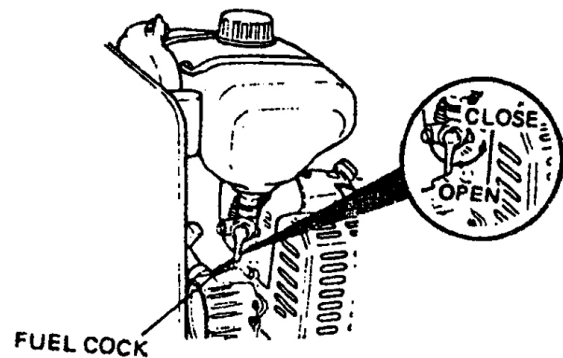

Fig. 10
- 1) Open the fuel cock. (Fig. 10)